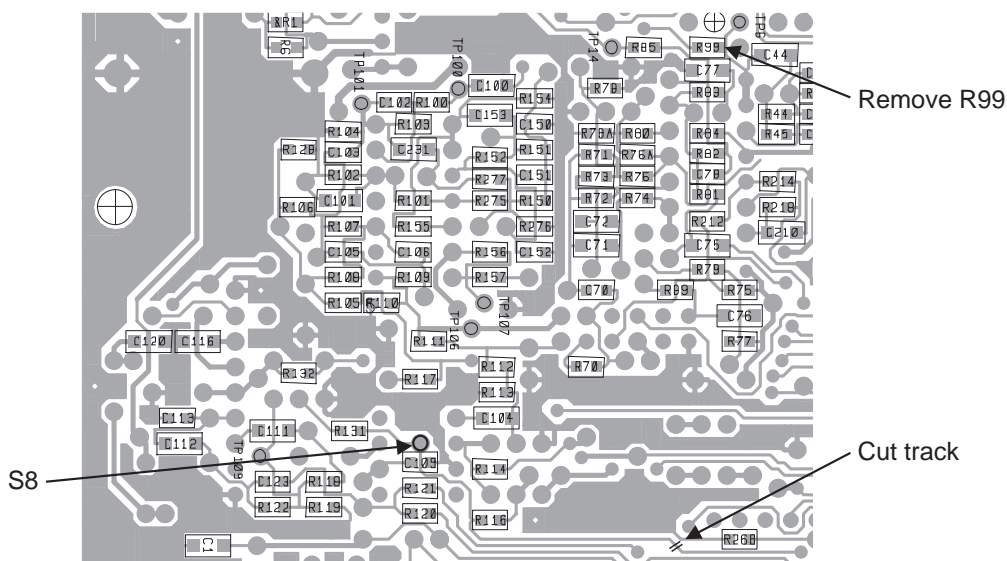

Figure 7 T700 Control PCB - Bottom Side
1. Cut the track from pin 5 of IC209 and remove R99, as shown in Figure 7. Solder the T800-02 wire from S8 to the test pad indicated in Figure 7.